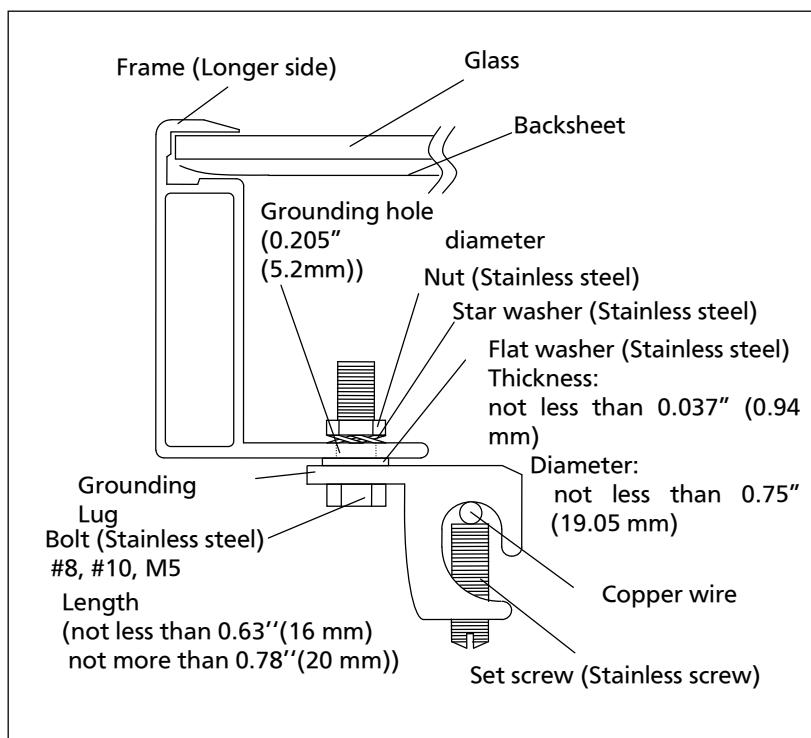

Figure 3.5
- Attach grounding lug to module frame using a stainless steel bolt and lock-nut as shown in figure 3.5.